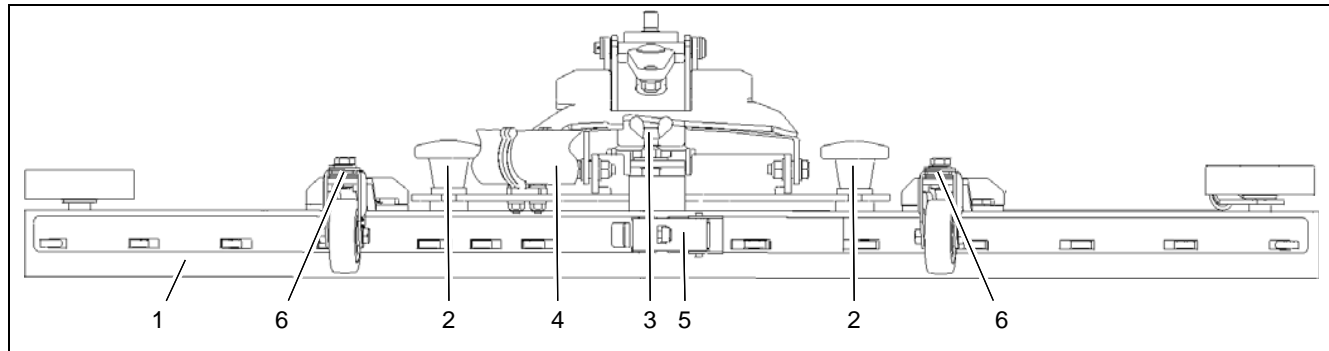

Fig.10
Check the squeegee (Fig. 10/1) daily and clean as necessary.
To clean it lift up the squeegee, pull off the suction hose (Fig. 10/4), loosen the two star-shaped knobs (Fig. 10/2) and remove the squeegee.
Check the inner and outer squeegee blades on the squeegee (Fig. 10/1) weekly for signs of wear. The squeegee blades can be used fourfold by turning them.
3. Unlock the fastening device (Fig. 10/ 5) and remove the outer squeegee blade. Turn the squeegee blade or install a new one. Change the inner squeegee blade in the same way.
2. Loosen the counternut on the adjusting screw (Fig. 10/3) and adjust the squeegee using the adjusting screw so that the ends of the squeegee blades have contact with the floor.